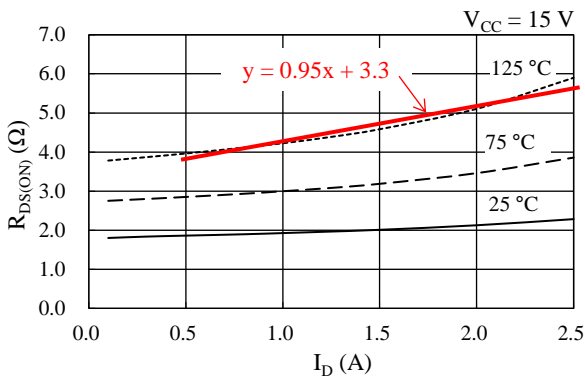

Figure 13-1. Linear Approximate Equation of  $R_{DS(ON)}$  vs.  $I_D$
Steady-state loss in a power MOSFET can be computed by using the RDS(ON) vs. ID curves, listed in Section 14.3.1. As expressed by the curves in Figure 13-1, a linear approximation at a range the ID is actually used is obtained by: RDS(ON) = α × ID + β. The values gained by the above calculation are then applied as parameters in Equation (1), below. Hence, the equation to obtain the power MOSFET steady-state loss, PRON, is: